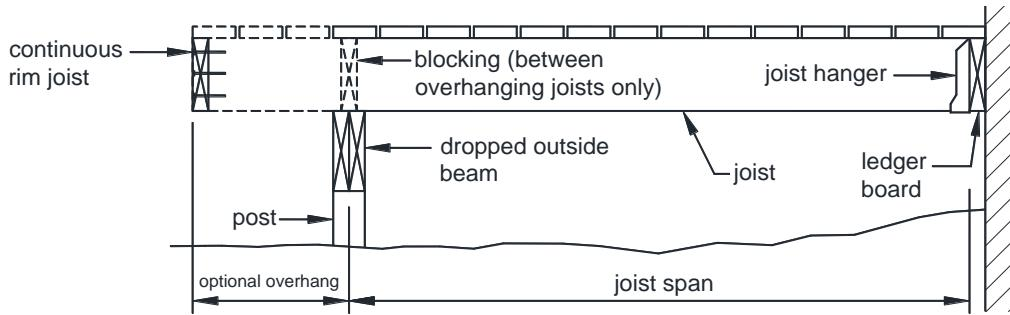

FIGURE 5: SINGLE SPAN DECK - JOISTS ATTACHED AT HOUSE WITH DROPPED BEAM
- Single span decks are framed with joists that have one span between supports (not including overhang) as shown in FIGURES 5 and 6. Multi-span decks have joists with more than one span which bear on multiple beam as shown in FIGURES 7 and 8.
- Attach a continuous rim joist or blocking at the joist ends as shown in FIGURES 5, 7 and 9. Attach a rim joist to the end of each joist with (3)10d nails or (3)#10 by 3-inch wood screws.
- Dropped beams have joists bearing above; flush beams have joists with hangers bearing on its sides; see FIGURES 5 through 9 and FIGURE 13.